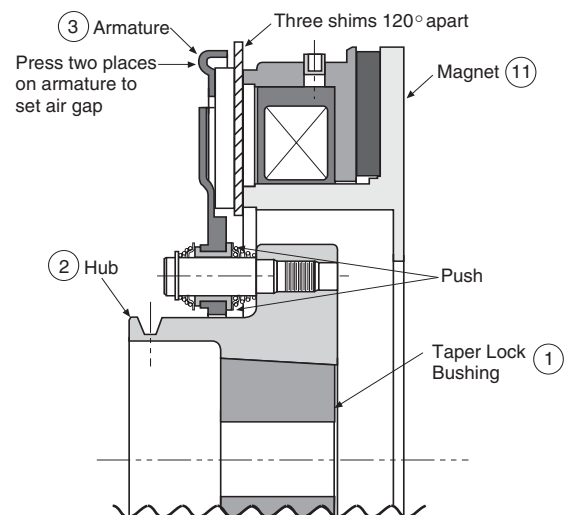

Figure 5
Step 9: Turn off power to the brake. Place three steel shims 120 degrees apart on the magnet as shown in Figure 5. Insert the taper-lock bushing (item 1) into the hub (item 2). Align the two half drilled holes in the taper-lock bushing (item-1) with the two half threaded holes in the hub (item-2). Insert the two set screws into the above aligned holes & screw them loosely in by hand to maintain the alignment during assembly.
Step 11: Apply power to the brake and remove shims. Set the airgap by pressing the armature into contact with the magnet and then releasing as shown in Figure 5. The armature should spring back approximately $\frac{1}{32}$ - $\frac{3}{64}$ (.031-.045) inch. If the airgap is outside of that range, reposition the armature hub assembly by repeating steps 1 and 2 of the disassembly procedure and steps 8, 9, and 10 of the assembly procedure.